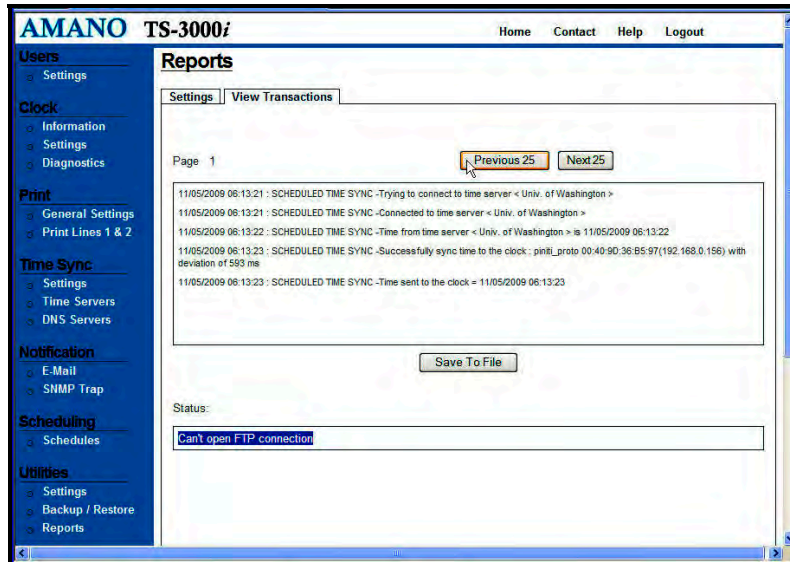

Figure 4-28. View Transactions Example.
Step 6. Click on the **View Transactions** tab to view the transactions based upon the previously defined and saved settings (see *Figure 4-28*). **All failed synchronizations will appear in red when viewed in the browser.** See the following for a transaction view examples: